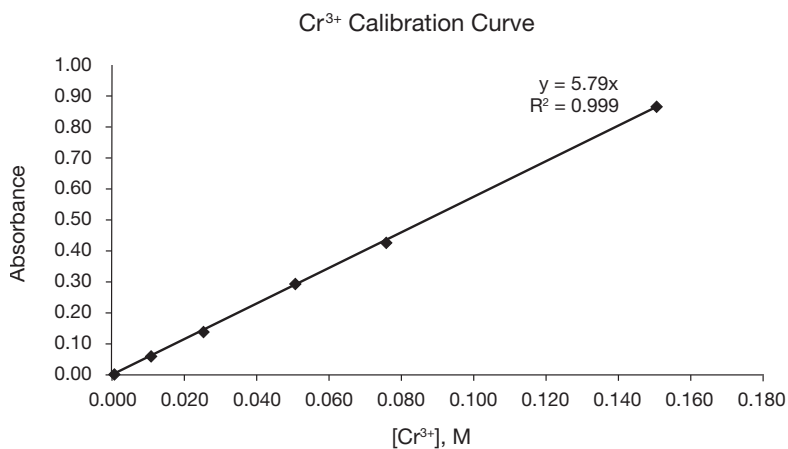

Figure 11. Calibration curve for Cr^{3+} ions at 575 nm.
9. A second calibration curve was generated for Cr^{3+} ions, this time using the absorbance at 575 nm (Figure 11). When a 1.215-gram steel sample was dissolved in acid and diluted to 50.0 mL, the absorbance of the resulting solution at 575 nm was 0.520 *A*. Calculate the % Cr in the steel sample.